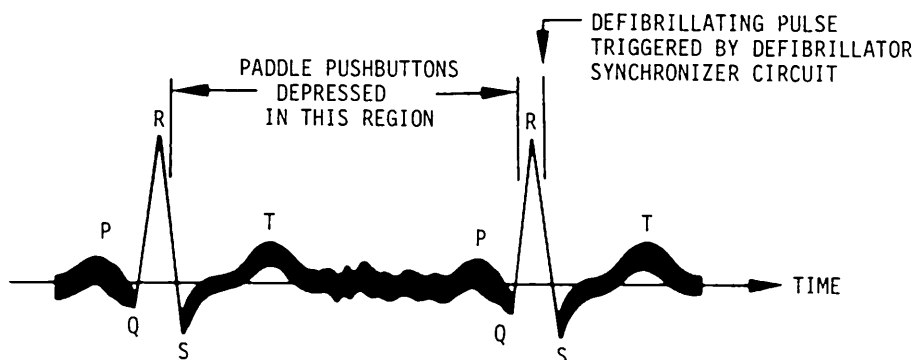

FIGURE 1-2. TYPICAL ECG WAVEFORM
- F. Synchronized Cardioversion. This feature uses the patient's monitored ECG signal ("R" wave) to trigger the Defibrillator discharge. The Lifepak 6s Monitor unit must be connected to the Lifepak 6s Defibrillator Unit to use this feature. The synchronized discharge is used to correct atrial fibrillation, atrial flutter or other arrhythmias. Figure 1-2 shows how, by using the "R" wave as the triggering signal, the defibrillating energy pulse is delivered at the proper time. This avoids the undesirable T-wave portion of the ECG signal where electrical shock may cause ventricular fibrillation.